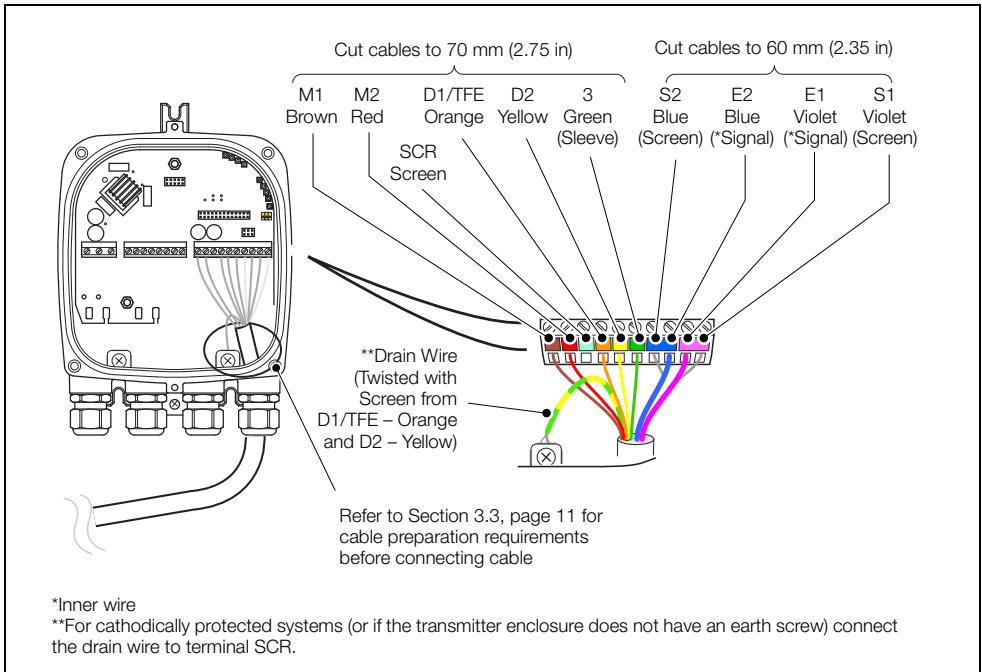

Fig. 3.5 Sensor Cable Connections at Transmitter Terminal Block – Standard System
- Cut the cable connection wires to the lengths shown in Fig 3.5, page 12.